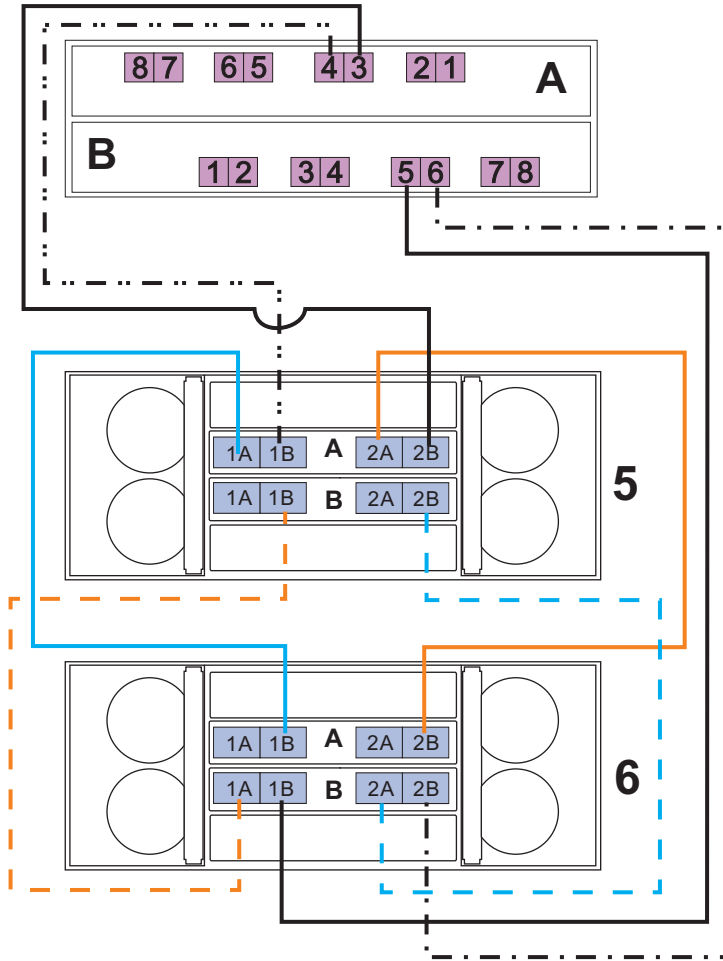

Figure 79. Cabling for eight EXP5060s, storage expansion enclosures 5 and 6 with drive-side trunking
- See Figure 79 on page 126 and Table 45 on page 127 for storage expansion enclosures 5 and 6